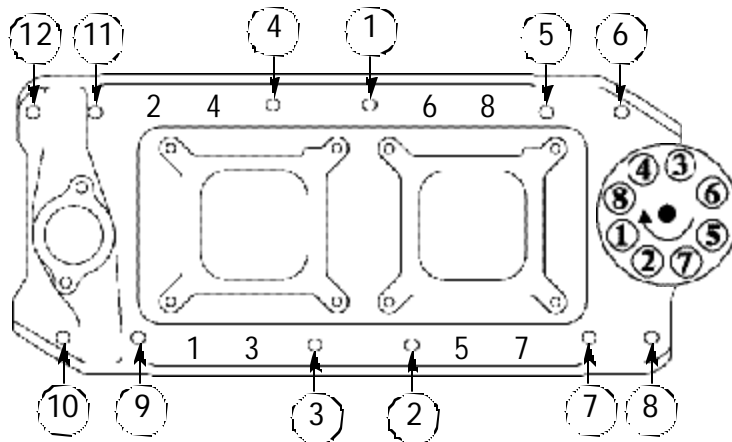

Figure 2 - 396-502 C.I.D. Chevrolet Bolt Torque Sequence
5. Install the intake manifold and hold-down bolts. Torque all manifold bolts in two steps by the sequence shown to 25 ft/lbs (See Fig. 2).